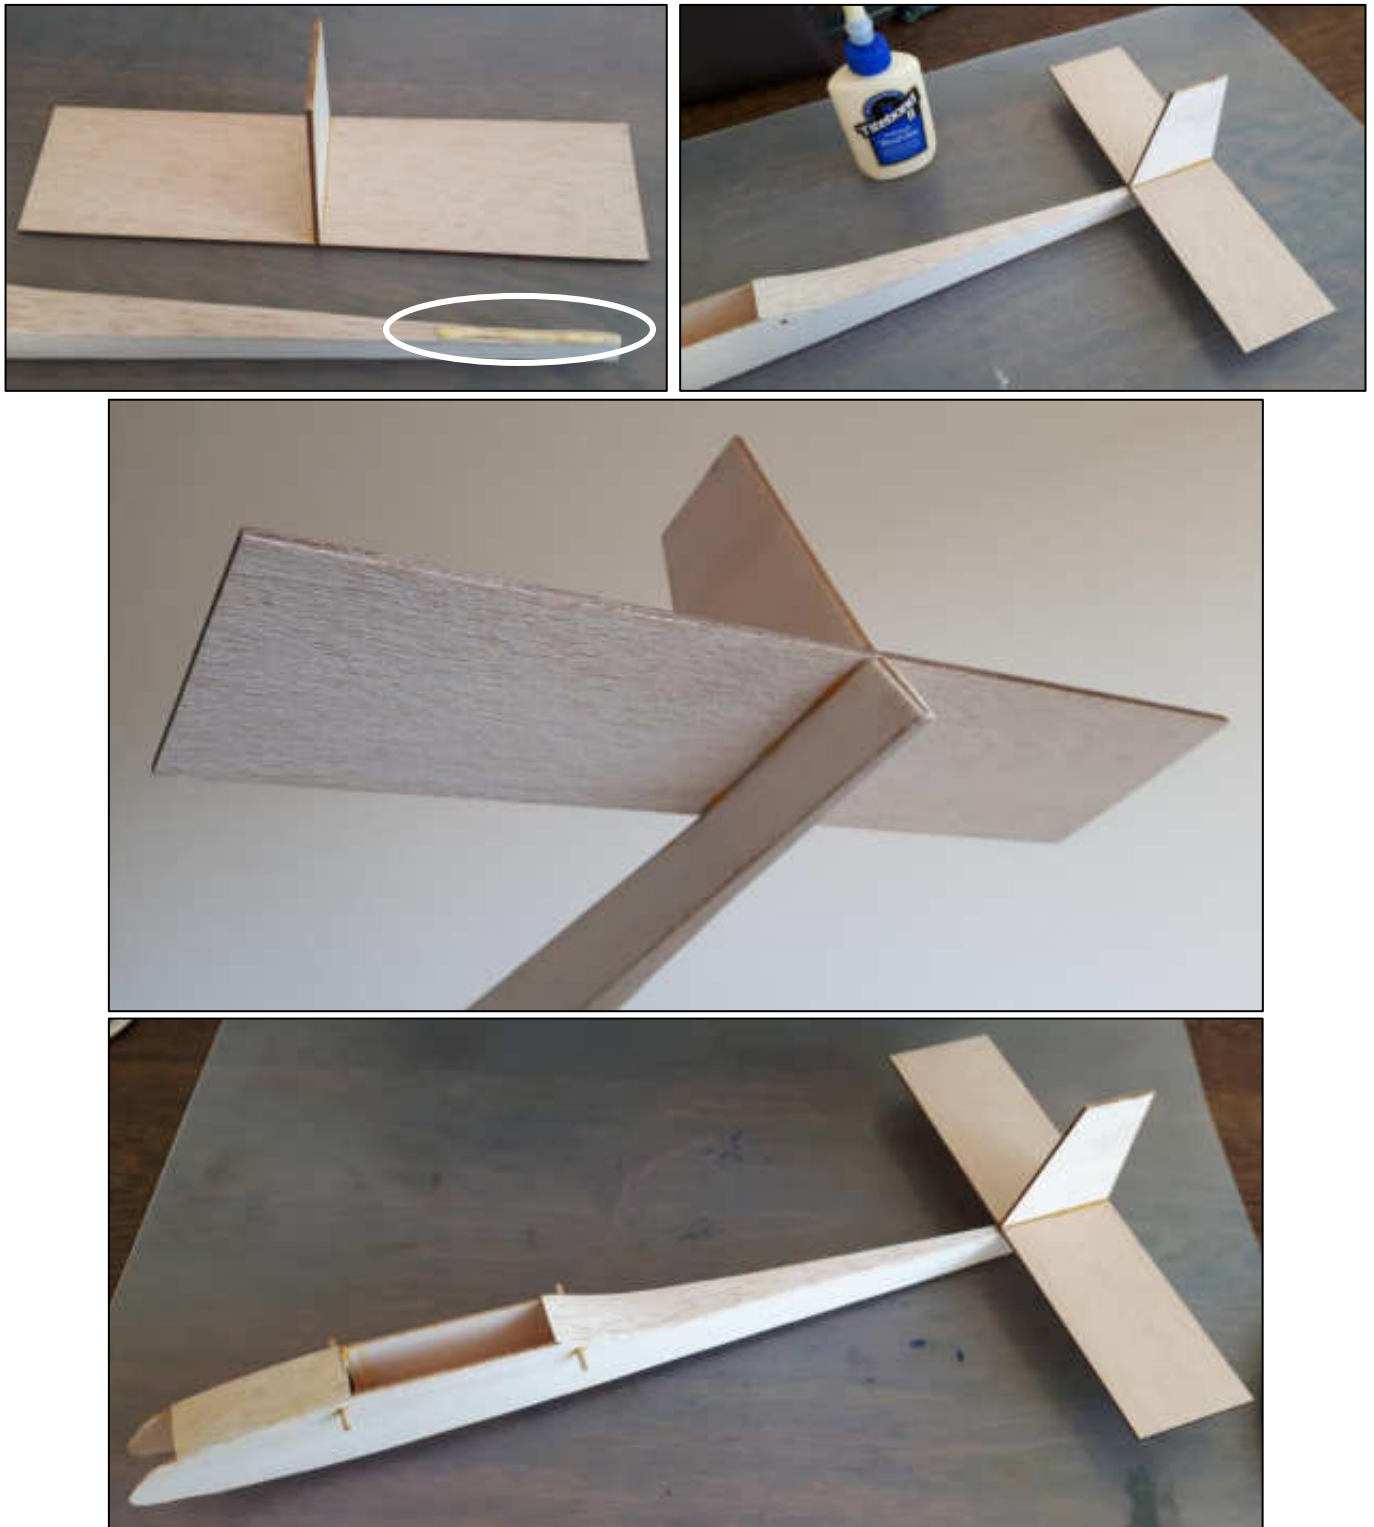

Figure 28: Attaching the tail to the fuselage.
28. Attach the tail to the fuselage using glue, Figure 28.